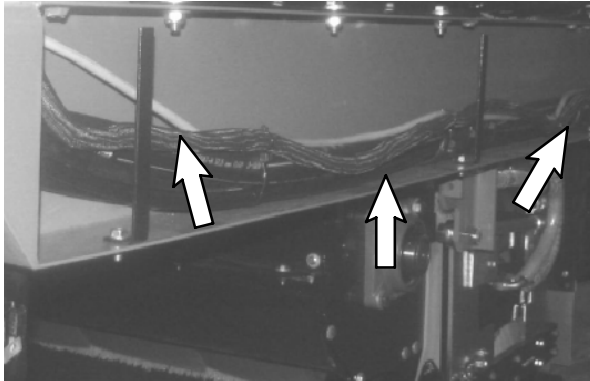

FIG. 28
45. Route the arrow stick cable assembly (2) along the main wire harness and into the service channel. Use cable ties (13) to secure the arrow stick cable assembly to the wire harness. Refer to Fig. 28.